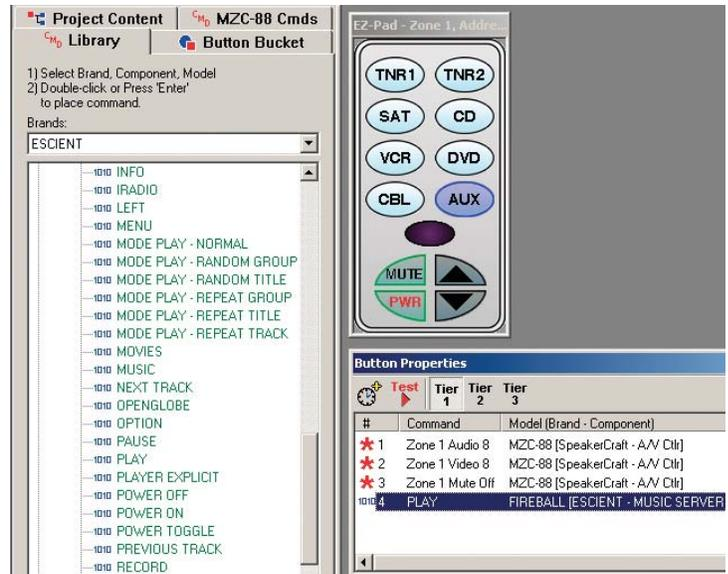

Figure 8
- Double left click the desired RS232 command. The command will appear in the Button Properties Window. (Refer to Figure 8) If there are commands already associated with the button being programmed, the RS232 command will appear at the bottom of the list. The command